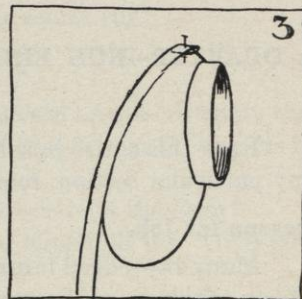

FIG. 3.
- b. Pin this folded end of ribbon over the edge of the hat at direct back, (or pin it where the joining will be hidden) so that one half of the ribbon extends beyond the edge to each side of the brim, and so that the $\frac{1}{4}$ inch that is turned to the wrong side is against the brim (see Figure 3).